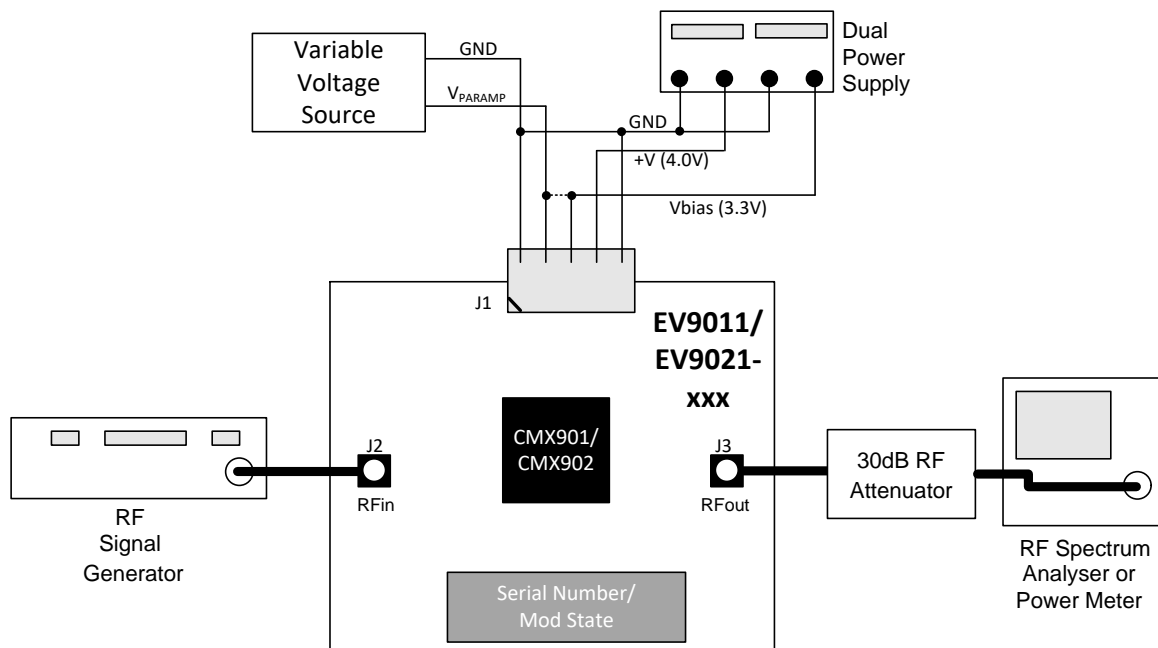

Figure 2 Typical Evaluation Connections for EV9011/EV9021
2. Connect test leads as shown below in Figure 2.